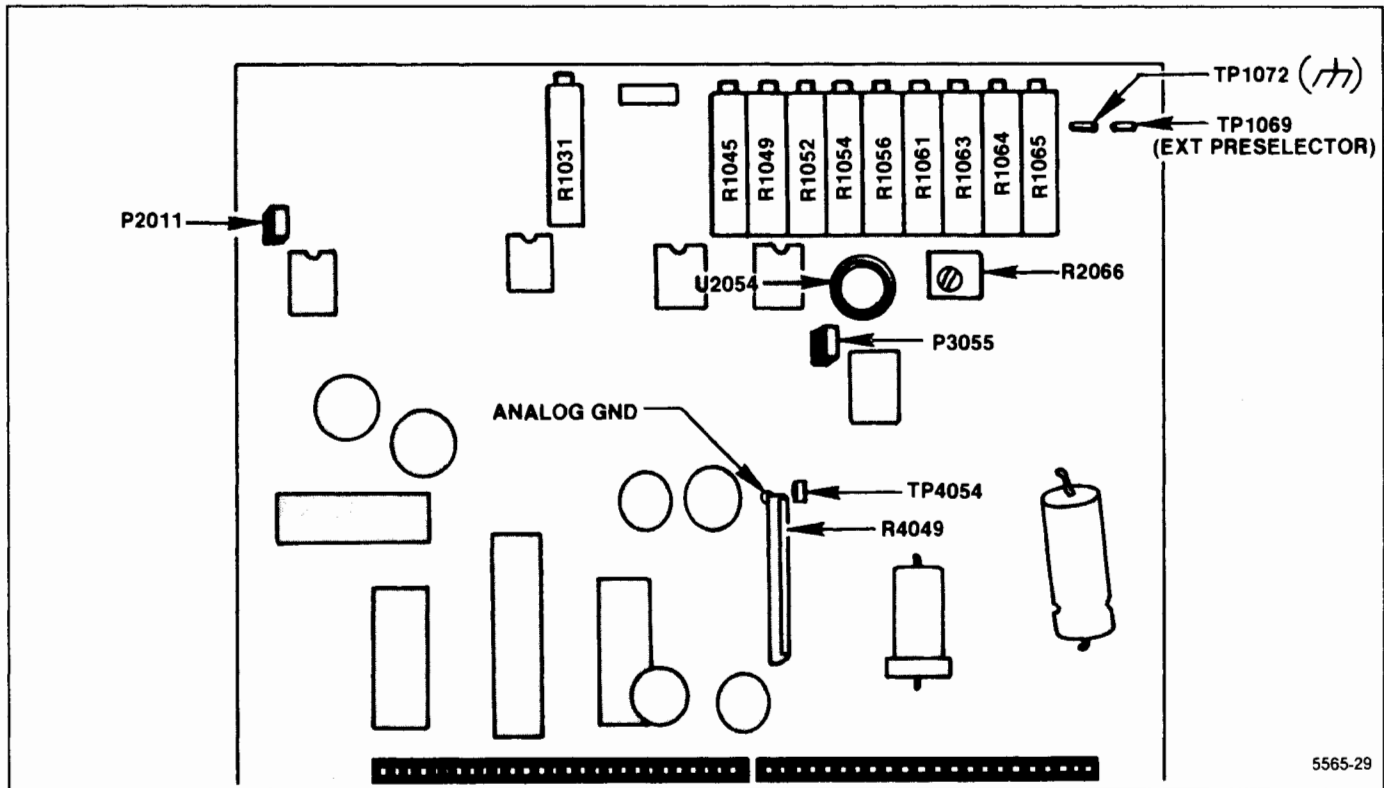

Figure 5-23. Preselector Driver test point and adjustment locations.
e. Set the CF/MARKER FREQUENCY to center the 2.1 GHz marker. Center the Input Offset adjustment R1031 (Figure 5-23), then center the 2.1 GHz marker with the CF/MARKER FREQUENCY control. Ground TP1069 with a jumper strap.
g. Peak the 2.1 GHz signal with the -829 MHz IF Offset R1049 (Figure 5-23).
n. Increase FREQUENCY to the 12 GHz marker, then peak the 12 GHz point with Shaper #1 R1054 adjustment (Figure 5-23).
u. Adjust -829 MHz IF Offset R1049 (Figure 5-23) to peak the 3.5 GHz response.
x. Tune the 19 GHz marker to center screen then peak the 19 GHz signal with Shaper #3 R1061 adjustment (Figure 5-23).